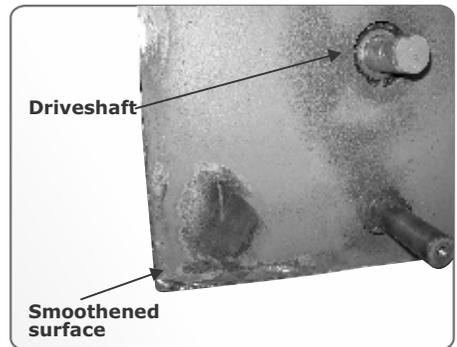

FIGURE 21
5. In order to provide adequate space for the **RSO** to be installed, some or all of the old fittings or support struts may have to be grinded off. Ensure that the surface is completely smooth and that there are no uneven areas or protrusions where the motor is to be installed as shown in Figure 21.